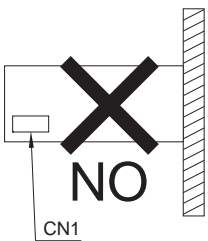

Fig.4.4 Installation method 2
■Avoid installation method 2 Fig.4.4 from mechanical stress.